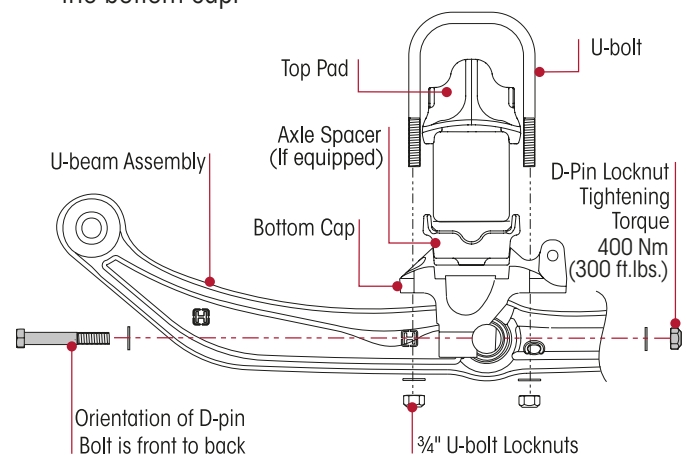

Figure 116: Install D-Pin Fasteners
7. Install the D-Pin fasteners with the bolt heads on the forward side of the bottom cap. Refer Figure 116.